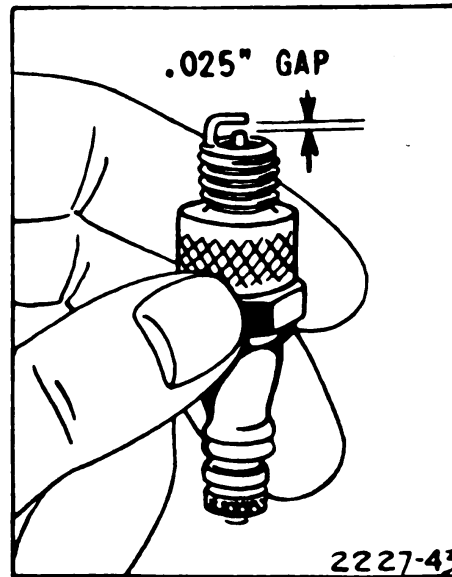

Figure 11.—Adjusting spark plug
c. Spark plug adjustment.—The cap of the spark plug shield on PE-77-C, D, and E must first be removed by raising the lock lever on the top of the shield, or on PE-77-A and B by slipping the coil spring off. The spark plug should then be removed with the spark plug wrench supplied with the unit. Spark plugs should be cleaned and points reset to .025 inch after each 50 hours of operation, and replaced after 100 hours. (Fig. 11.) The spark plugs may be cleaned by scraping off the carbon and washing with cleaning solvent (Federal Specification P-S-661A). The points should be dressed with a fine file or emery cloth. When points become burned through service or the porcelain of the plug becomes cracked, replace with a new plug and gasket. Use Champion No. J-8 (14 mm) spark plug or its exact equivalent. Apply a little graphite grease on thread when replacing;